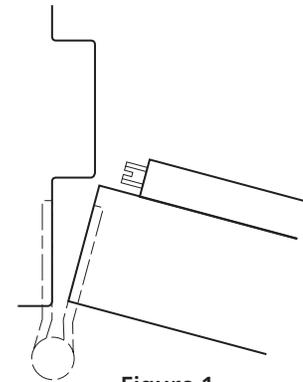

Figure 1
- a) Surface mounted: the plunger contacts the stop (see Figure 1).